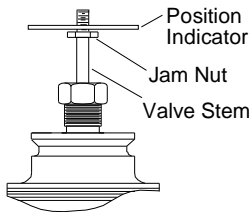

Figure 6: Installing Nut and Position Indicator
5. Place the position indicator on top of the jam nut as shown in Figure 6.